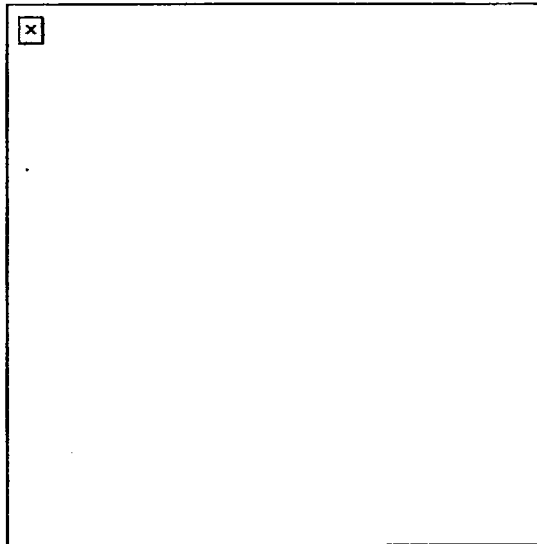

Figure 2. Checking the feed tray, receiver, and chamber area.
4. Open the cover, raise the feed tray assembly, and make sure the feed tray, receiver, and chamber area are clear (Figure 2).